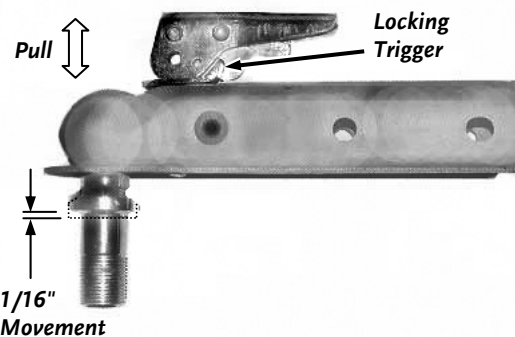

Figure 7
1. Place a 2" Ball in the Socket of the Coupler and close the Latch Assembly (**Figure 7**). Verify that the Locking Trigger is properly engaged in its detent.